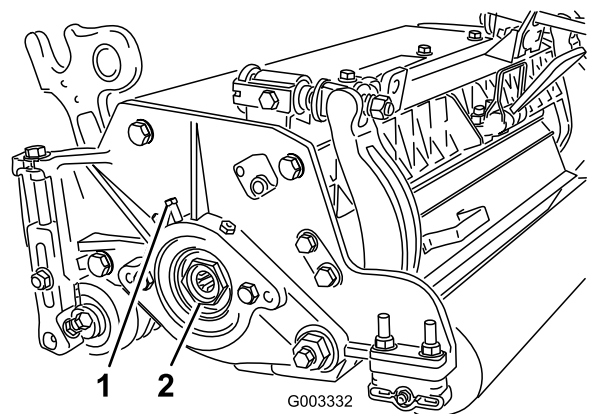

Figure 33
- A. Loosen external set screw securing bearing adjusting nut to bearing housing located on the left side of the cutting unit (Figure 33).